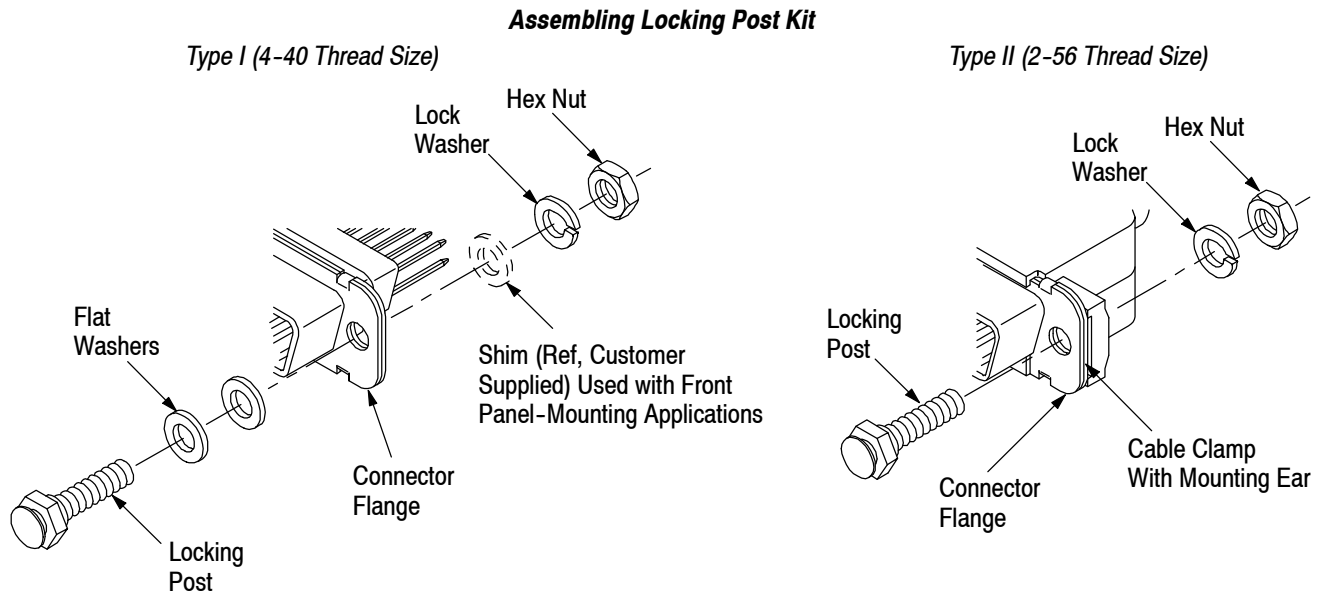

Figure 5
3.3. Locking Post Kits (See Figure 5)
NOTE For front panel mounting, it is recommended that a shim be used between the connector flange and panel to prevent bowing of the flange. Shims are not supplied with kit. See Figure 5.